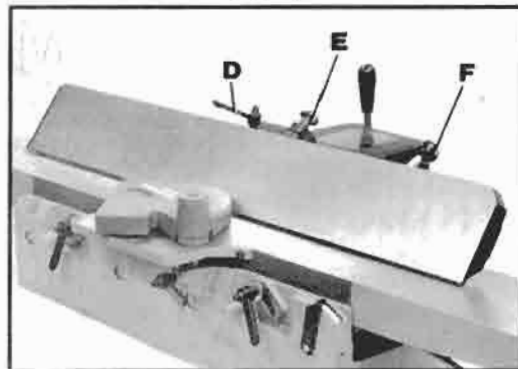

Fig. 17
To tilt the fence to the right or left, loosen handle (D) Fig. 17, pull out and turn plunger (E), and move the fence tilting lever (F) to obtain the desired angle of tilt; retighten locking handle (D). **NOTE:** The handle (D) Fig. 17, is springloaded, and can be repositioned by pulling out the handle and repositioning it on the serrated nut located underneath the handle.